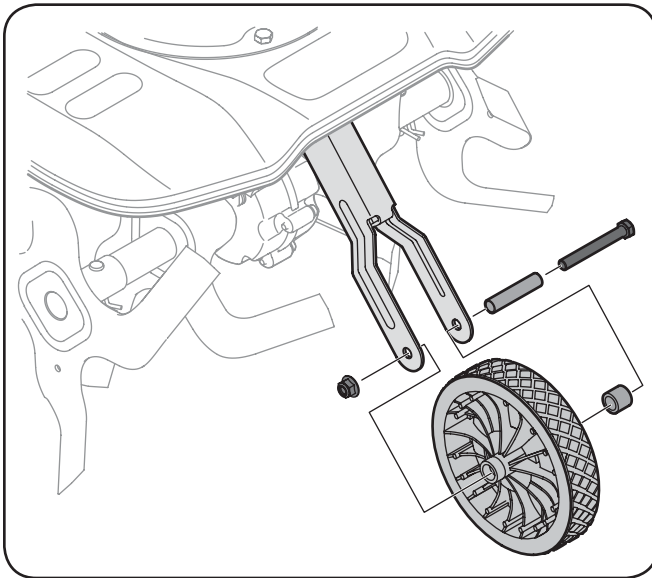

Figure 1
3. Secure the wheel to the wheel bracket with the flange nut removed in Step 1 using two  $\frac{9}{16}$ -inch wrenches (or adjustable wrenches). See Fig. 1.